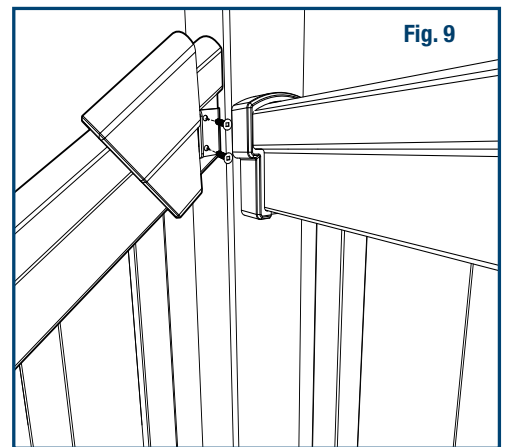

Fig. 9
- 14** Secure the top rail in place by installing two of the 1" screws on both sides of the metal brackets. (Fig. 9) Snap the bracket covers over the metal brackets.